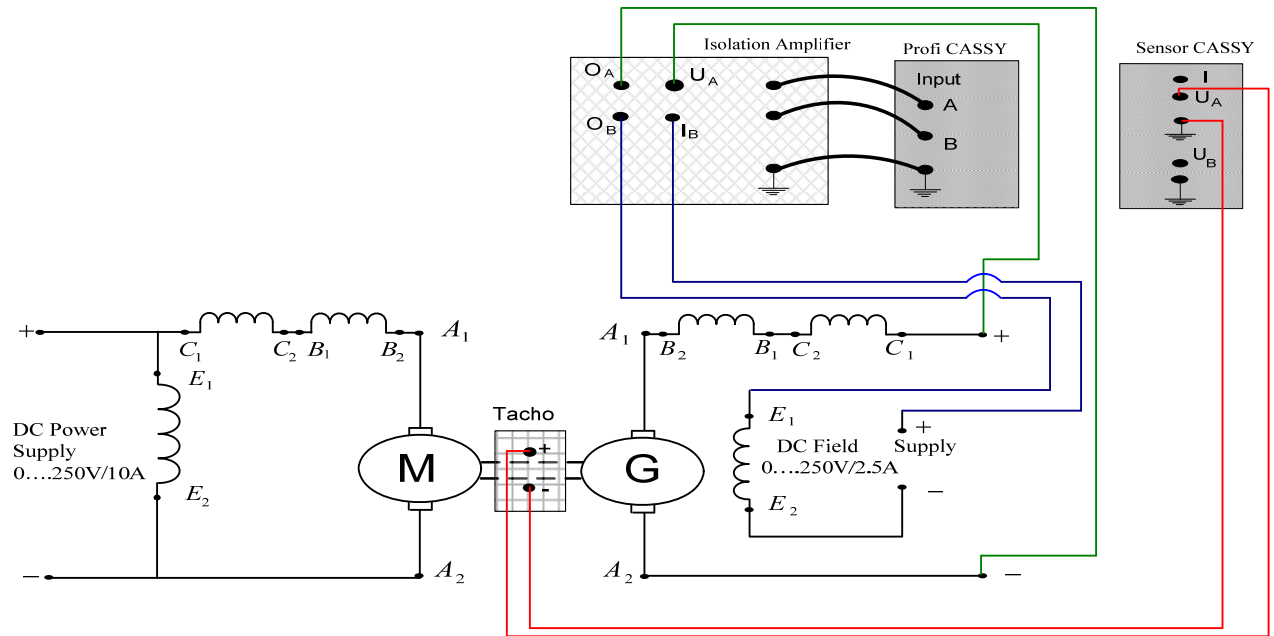

Figure 1: OCC DC Generator Set Up
4. Connect the circuit as shown in Figure 1 using Cassy measurement Connection for the indicated field current, open circuit voltage, and rotor speed.